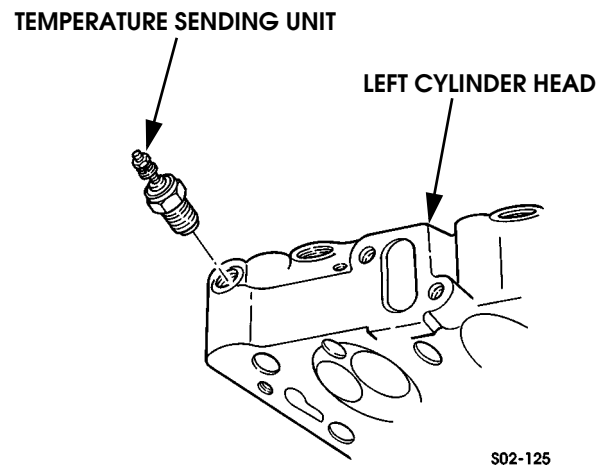

Figure 2-154: Temperature Sender Removal/Installation
2. Remove temperature sender from left side head (Figure 2-154).
9. Apply Permatex #2, or high temp sealant to threads of coolant temperature sender and cold start-advance switches. Then install switches in heads (Figures 2-154 and 2-155). Temperature sender goes in left side head.